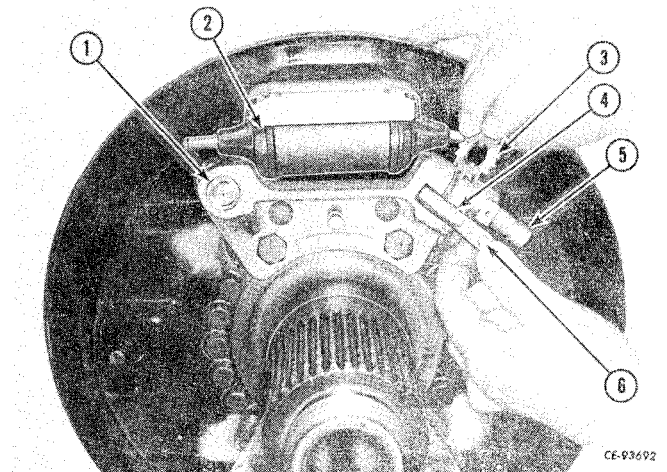

Figure 13-9
Remove the screw (6, Fig. 13-9) and spring (4). Slide adjusting screw (5) out and remove the adjusting wheel (3). Remove the cap screws and lock washers securing the cylinder (2). Remove the anchor pins (1).
Install the cylinder (2, Fig. 13-9) and secure with the cap screws and lock washers. Install the anchor pins (1). Install the wheel (3) and slide the adjusting screw (5) into the wheel. Install the spring (4) and secure with the screw (6).